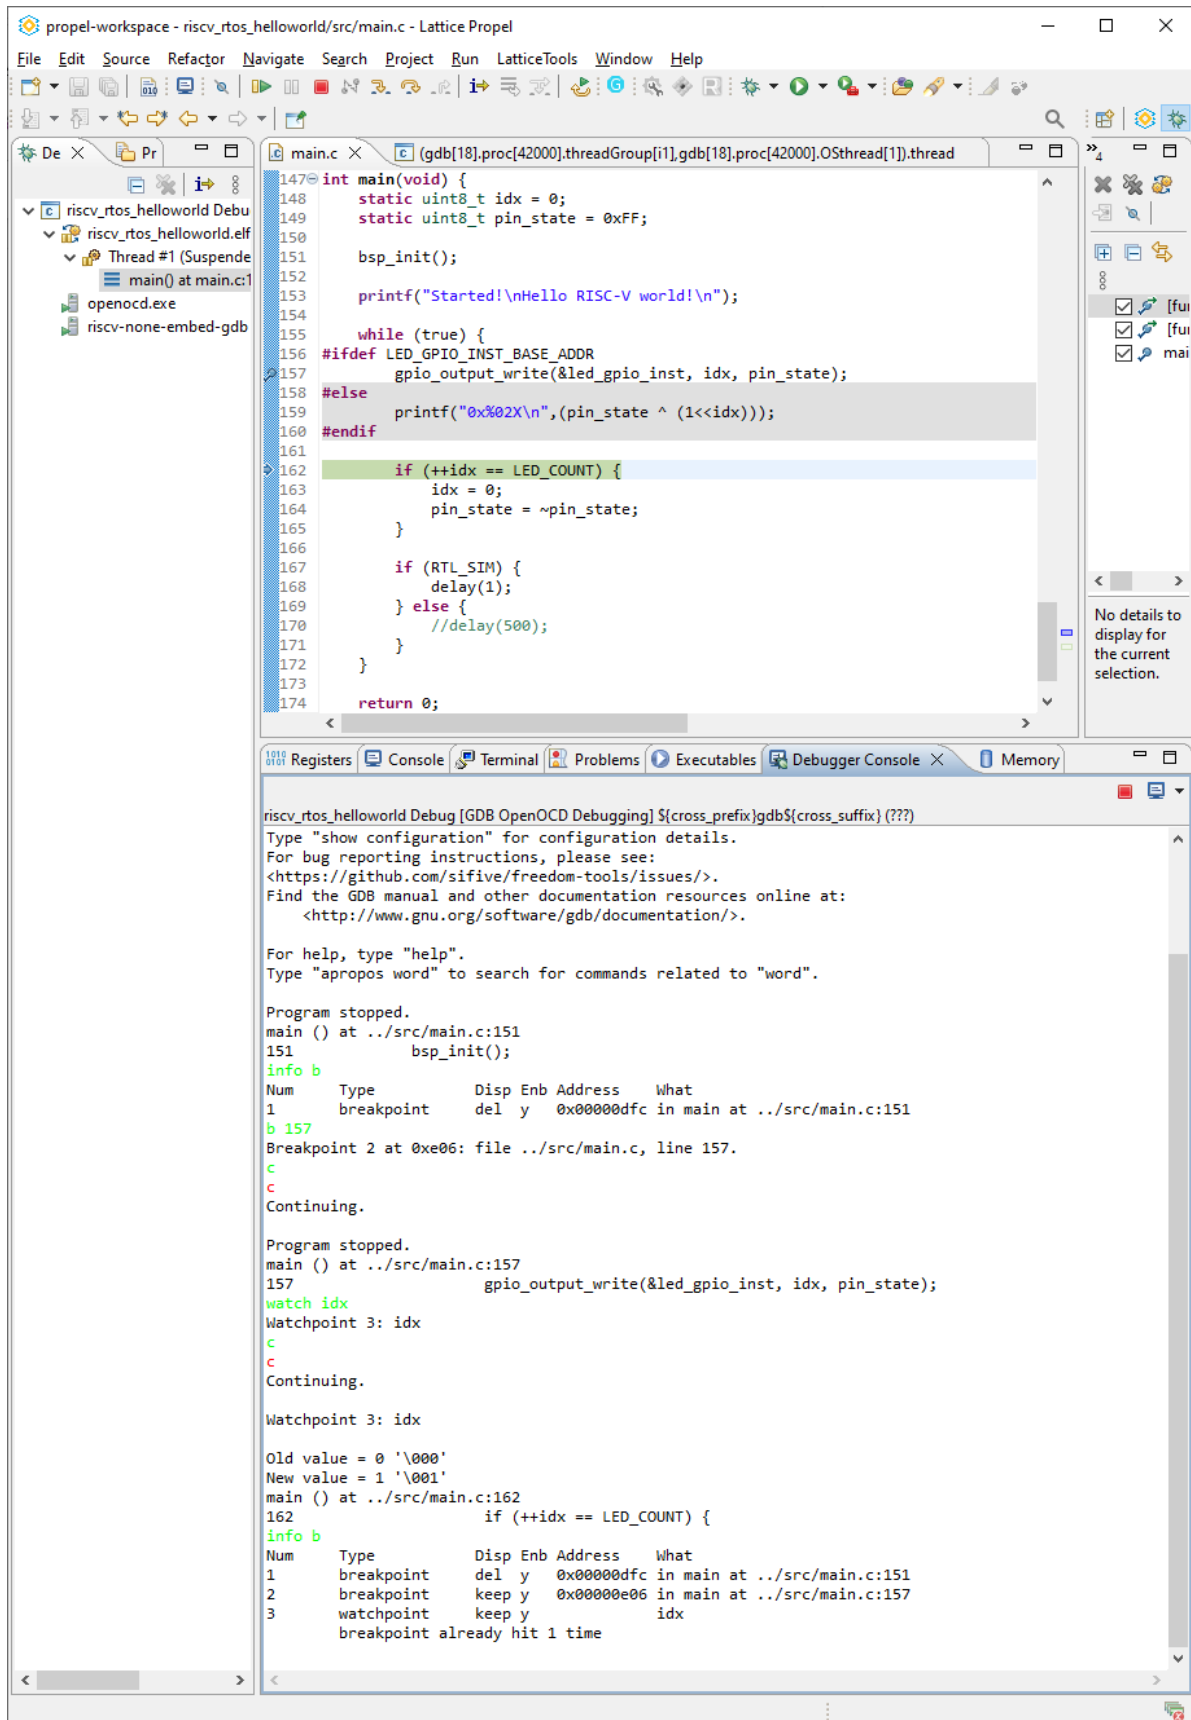

Figure H.2. GDB Console 2
1. Create a C/C++ project, build it, and execute on-chip debugging. A HelloWorld project is used as an example, as shown in Figure H.2.
Input the following commands in sequence in the GDB command line window shown in Figure H.2.
In Figure H.2, line 170 originally includes billions of instruction cycle, and this line is commented out to avoid making the program running too slowly.